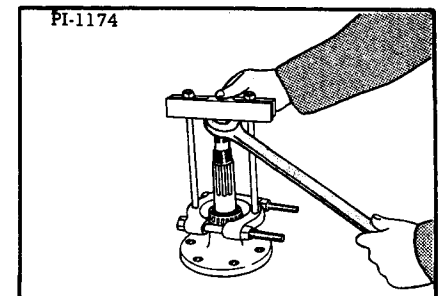

Fig. 75 Removing Bearing from Axle
2. Remove the axle bearing from the axle shaft with a bearing puller (Figure 75).